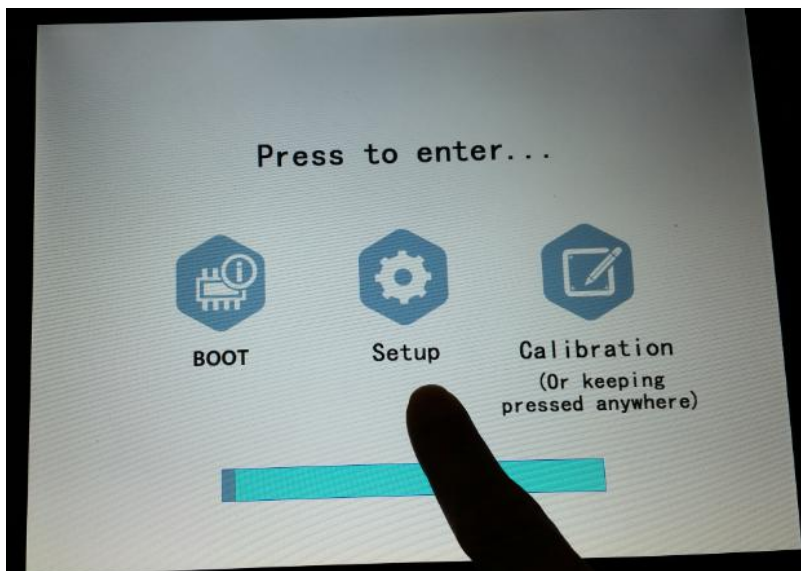

Fig. 30
③ Press the button "Setup" for uploading, as shown in Fig. 30. Select "Project" and enter the password, as shown in Fig. 31. The default password for project management is "888888" which can be modified in the "Global Setting" of the software.